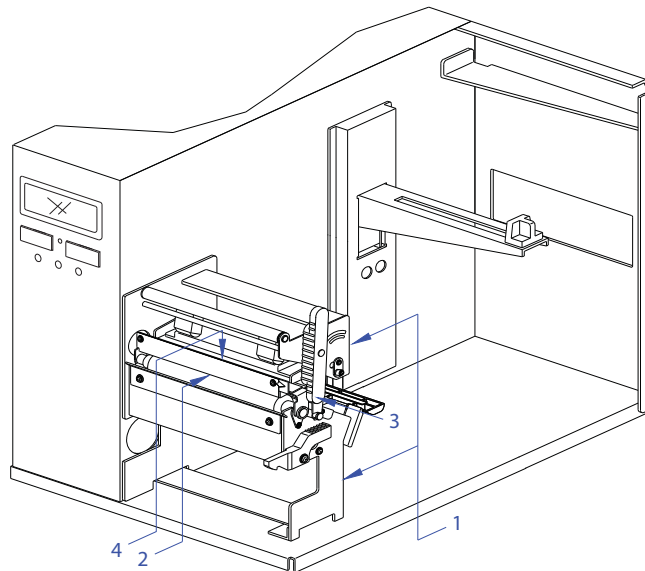
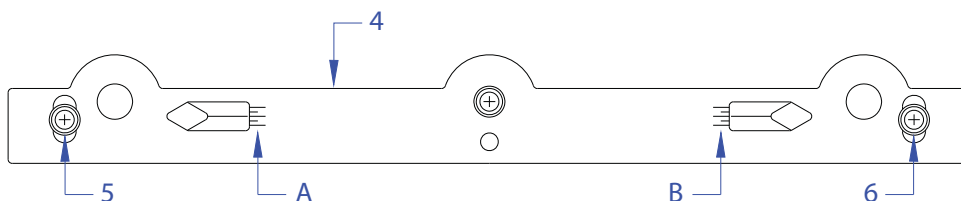

Figure 8-2a, Print Head Alignment
Figure 8-2b, Print Head Alignment
- 1 Open the right housing cover to access print assembly (1, Figure 8-2a).
- 2 Ensure print head (2) is latched (3).
- 3 Look downward to print head (2) to locate head alignment plate (4, Figure 8-2b).
- 4 Ensure the values of alignment scales (A) and (B) are the same.
- 7 Test print a label to determine if print head (2, Figure 8-2a) is properly aligned.